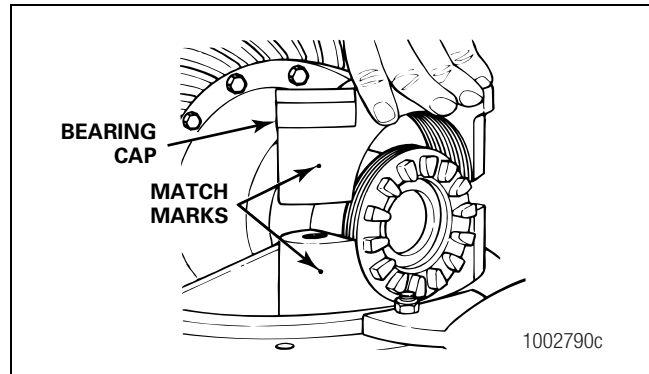

Figure 5.34
8. Install the bearing caps over the bearings and adjusting rings in the correct location as marked before removal. Figure 5.34.